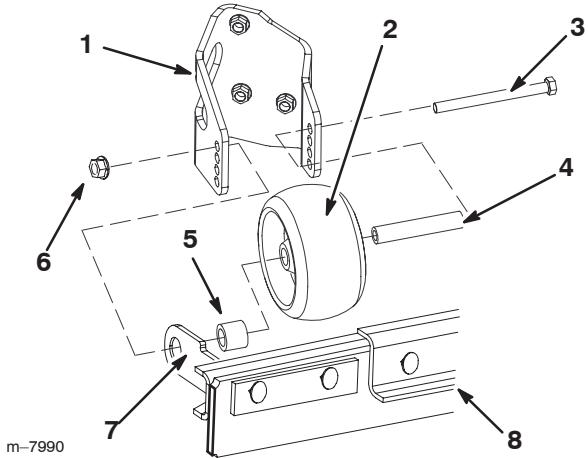

Figure 19
2. Remove the anti-scalp roller wheel, axle bolt, hub, wheel spacer, and flange nut (Fig. 19) from the wheel bracket.
4. Assemble the anti-scalp roller wheel and striping assembly as shown in Figure 19.
5. Secure the anti-scalp roller wheel and striping assembly with the axle bolt and flange nut removed previously (Fig. 19).